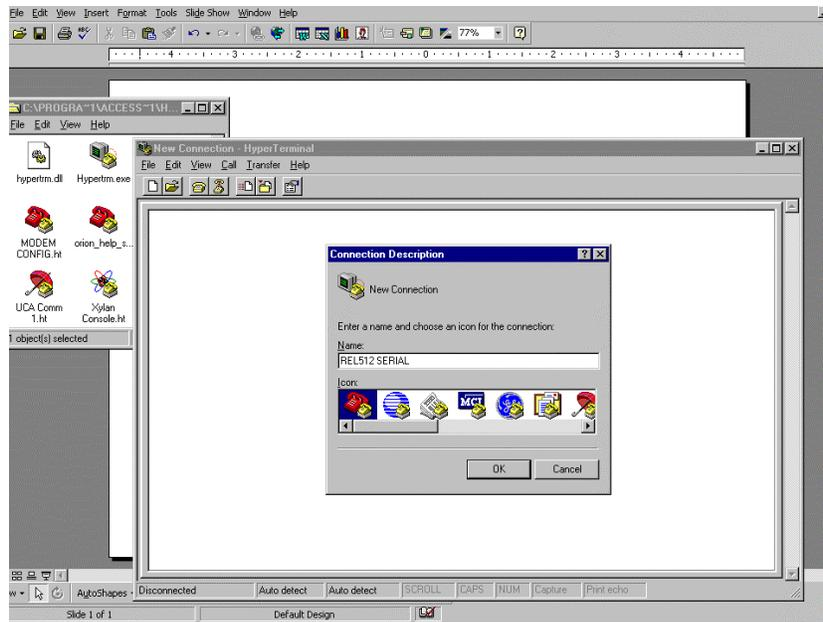

Figure 44. Hyperterminal Setup Screen
2. Select the icon labeled Hyperterminal.exe. The screen illustrated in Figure 44 should be visible. The operator will be prompted for a name as illustrated.